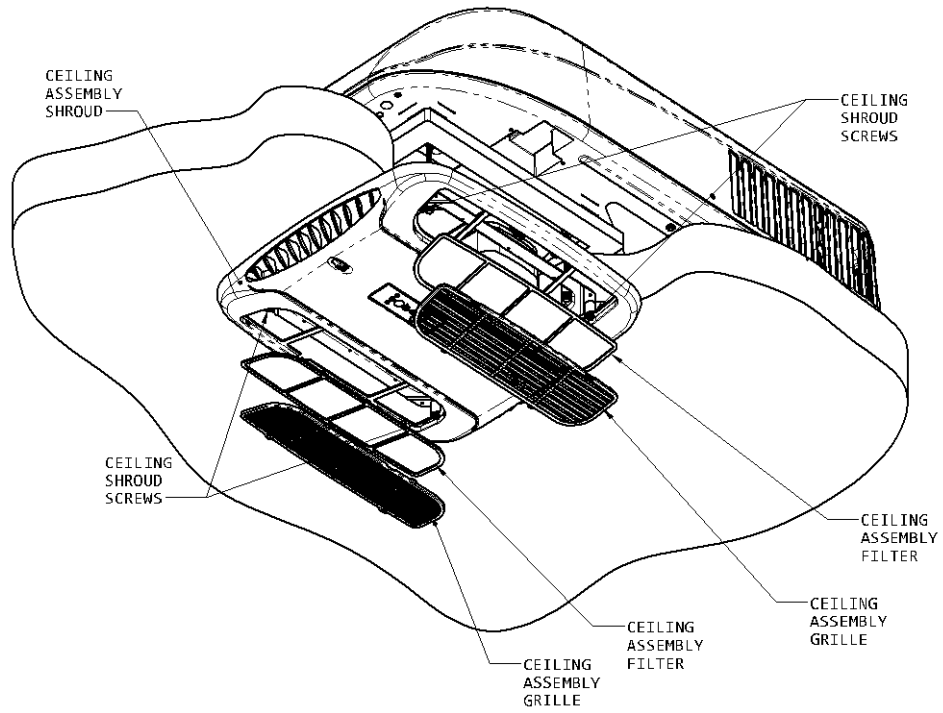

Figure 1
2. Remove the four Philips head screws holding the shroud in place shown in **Figure 1** and pull the shroud down from the roof of the RV.